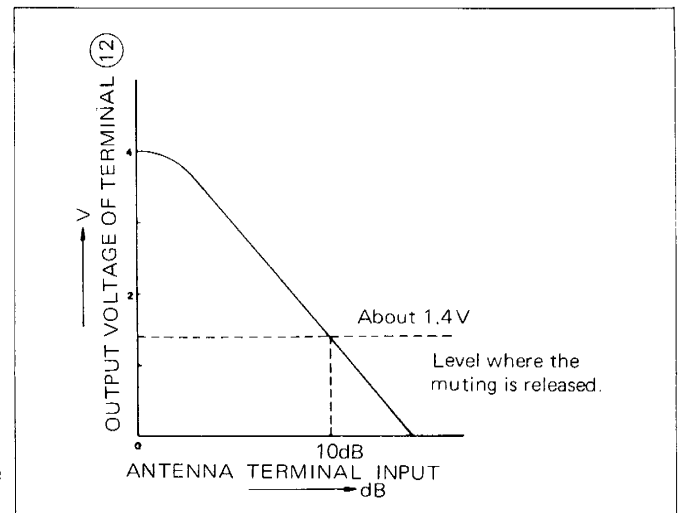

Figure 13
Figure 13 shows the output voltage of the terminal ⑫ of IC101. This signal (to release the muting) is then supplied to the terminal ⑪ of P.L.L. stereo multiplex demodulator integrated circuit IC103 to make stereo signal be forced to monaural signal.